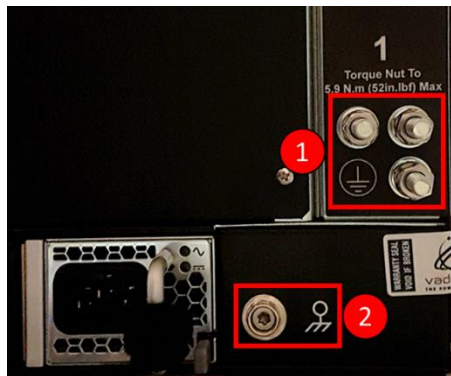

Figure 8: Rear grounding lug (1) and rear-connector for the ESD wrist band (2).
1. On the rear of the chassis, locate the earthing connection on the right (see Figure 8 point (1)).
1. Locate the ESD grounding sockets on the shelf. Refer to Figure 6 for the location of the Front ESD point (19), and Figure 8 for the Back ESD point (2).